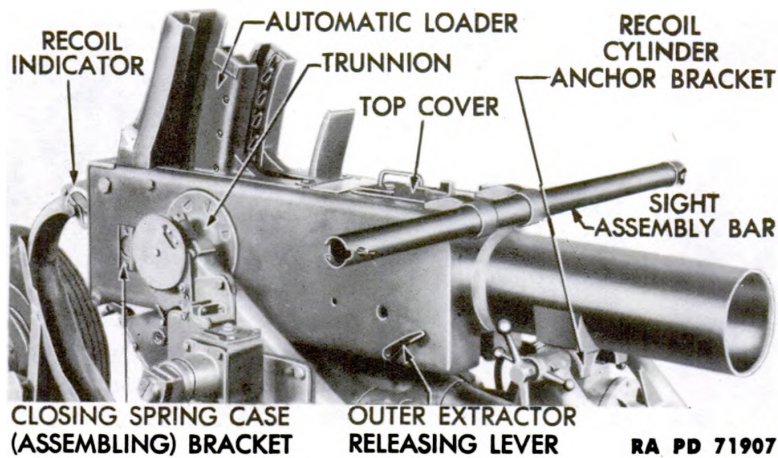

Figure 7 – Breech Casing Assembly – Right Front View
a. The breech casing (fig. 7) is the housing or supporting unit for the various subassemblies of the gun. The rear portion is rectangular in shape; the front end is tubular. On guns of earlier manufacture, cooling slots were provided in the tubular front end of the breech casing. The casing itself is supported in the carriage mounting by means of flanged trunnions at the sides of the casing. Four hinged or detachable covers give access to the interior of the casing.
c. On the right side of the breech casing (fig. 7) is the outer extractor releasing lever and the breech ring closing spring case (assembling) bracket. The latter is used in disassembling and assembling the breech ring closing spring after the assembly has been removed from the weapon.